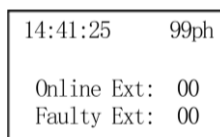

Fig. 5 Standby mode
3.3.1 Start: After confirming that the installation and wiring are correct, turn on the mains switch. The "Power" indicator (green) on the front panel is illuminated after normal start-up, the LCD displays the time and "Initializing..." 8 seconds later, the LCD status is shown as in Figure 5, indicating that the system